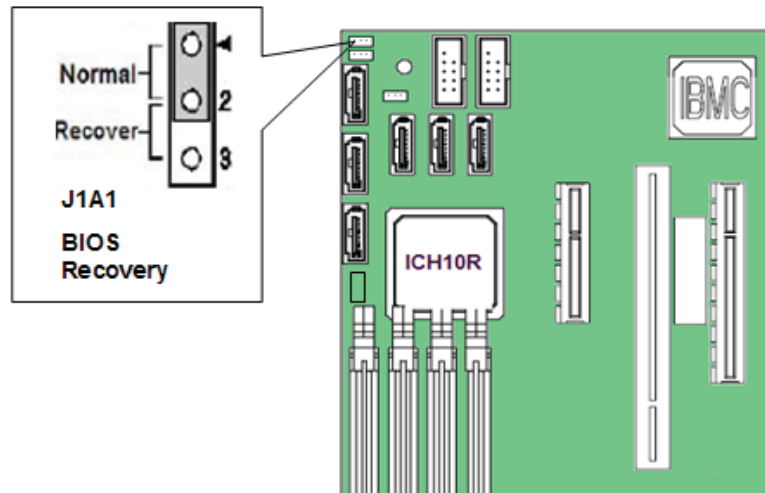

Figure 18. BIOS Recovery Jumper
2. Move the recovery jumper at J1A1 from the spare location at pins 2 and 3 to cover pins 1 and 2. Refer to Figure 18.